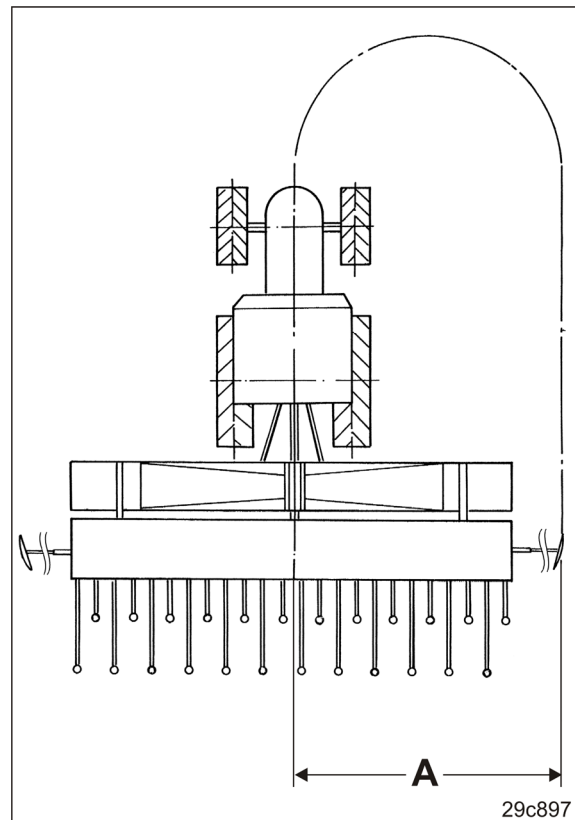

Fig. 171
- 4.4 Set the track marker length to length "A" (see table Fig. 171).